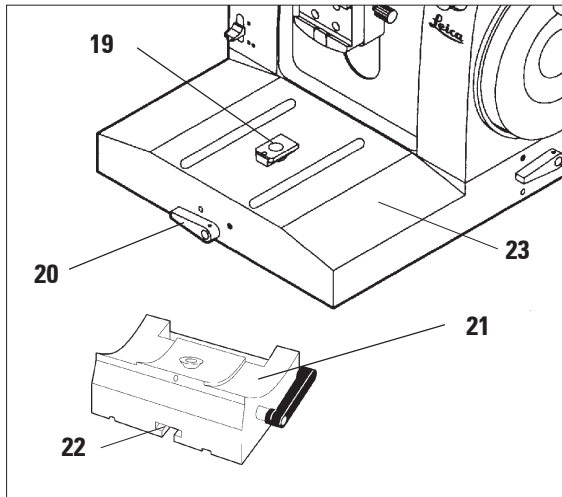

Fig. 10
- Turn the coarse feed wheel until the fixture for specimen clamps (31) has reached the rear limit position (see chapter 5.5).
- Release the clamping lever (20, Fig. 10) on the front side of the microtome base plate and slide knifeholder base and knife holder to a position just before the specimen. See Fig. 10, p.17 or Fig. 26, p. 28.